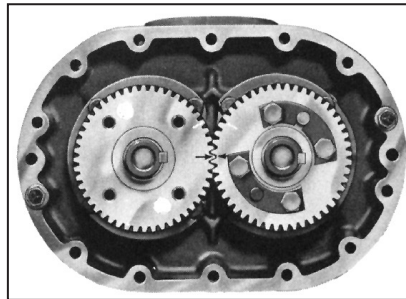
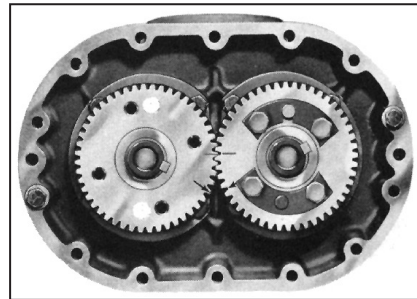
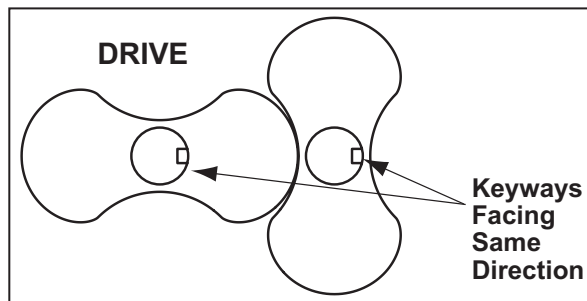

Figure 16 - Position of timing marks
Figure 17 - Position of timing marks
Figure 18 - Keyways position
1. Remove unit from installation and drain lubricant from both ends by removing magnetic drain plugs (31). Mark end plates, covers and housing so they can be reassembled in their original position.
3. Remove four socket head screws (93). Requires 5/32" hex head (Allen) wrench. Place two of the screws in tapped jacking holes and remove seal housing (91). Tap out seal and discard O-rings.
4. Remove gear cover cap screws (26) and gear cover (6) by placing two of the screws in the tapped jacking holes provided on the cover flange. Support cover with lift straps or other suitable means while removing. The jackscrews will provide the force necessary to break the seal between cover and end plate.
5. Temporarily secure end plate to housing with two screws (26) and some flat washers. Remove four nylok screws (66) from drive shaft (45). A light tap with a mallet will break it loose from the gear. Remove mating ring of mechanical seal [54].
6. Bend back lock tabs and remove cap screws (29), lock (59), washers (25) and spring pins (68).
7. Position timing gears (8) so both timing marks are matched. See Figure 16. Rotate drive gear clockwise approximately three teeth and mark a matching reference line on each gear as shown in Figure 17. This gear position is necessary so rotors will clear and not jam. Using a gear puller with a live center or a centering adapter, large enough so it will not jam into threaded hole, pull driven gear, while keeping matched reference line marks aligned. Use a slight rocking motion to insure rotors have not jammed. Should jamming occur, release pressure and tap gear back on until it rotates freely. Pull mating gear.
3. Place free end plate on suitable blocking with rotor side up. Stand rotors (1) into each bore with gear end shafts up and keyways facing in the direction shown in Figure 18 to the right.
4. Install the gear end plate (4) over the rotor shafts and coming to rest on top of the rotor lobes, being careful not to damage the seals. Recheck the location of the oil sight glass in relation to the drive rotor before proceeding with the assembly. Inspect lapped surface of seal mating ring to be sure it is perfectly clean. Use a soft tissue and cleaning agent if necessary. Place a few drops of lubricating oil on its surface and lubricate the O-ring. Install on rotor shaft with lapped surface down. Slot must line up with pin (300) in rotor shaft. Gently press with fingers to insure compression is taking place and mating ring is not hung up for any reason. Top of mating ring should sit flush with rotor shoulder when fully seated.
5. Coat the rotor shafts with an anti-seize lubricant and press the bearings (9) on the shafts. The bearing manufacturer numbers and/or an acid dot (inner race) should be up or toward the gears. Use the tool shown on page 44 along with a length of 3/4 - 10 x 6" threaded rod, washer (25) and nut. The use of a hydraulic ram with a hollow center is also recommended. In this case the threaded rod will have to be made longer.
6. Install bearing retainer plates (14) and secure with cap screws (30).
7. Check clearance between the face of the end plate and rotor lobes. Refer to *Assembly Clearances* table on page 41 for correct gear end clearances. If clearances are not within specifications, recheck parts to find cause of improper clearances before proceeding. Install keys (24) in rotor shaft keyways
8. Lubricate shafts and keys and press drive gear (right hand helix) on drive rotor. To install driven gear, align reference marks as shown in Figure 17 on page 35. Tap gear with mallet to start then press the gear until seated.